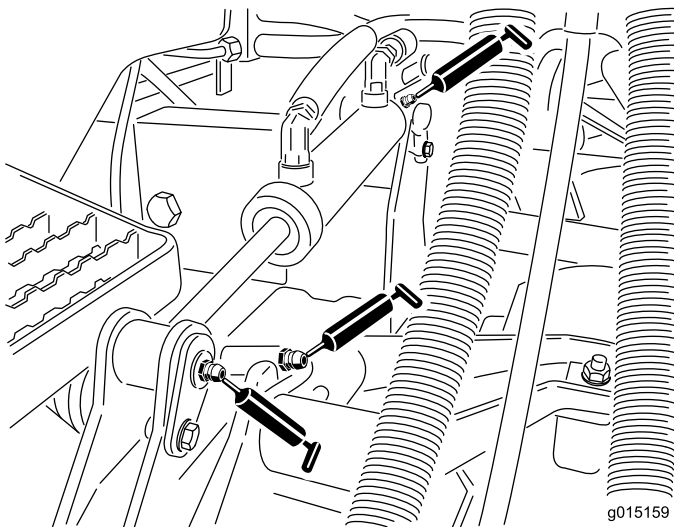

Figure 52
- Lift arm bushings (1 per cutting unit) (Figure 52)
- Lift cylinder bushings (2 per cutting unit) (Figure 52)